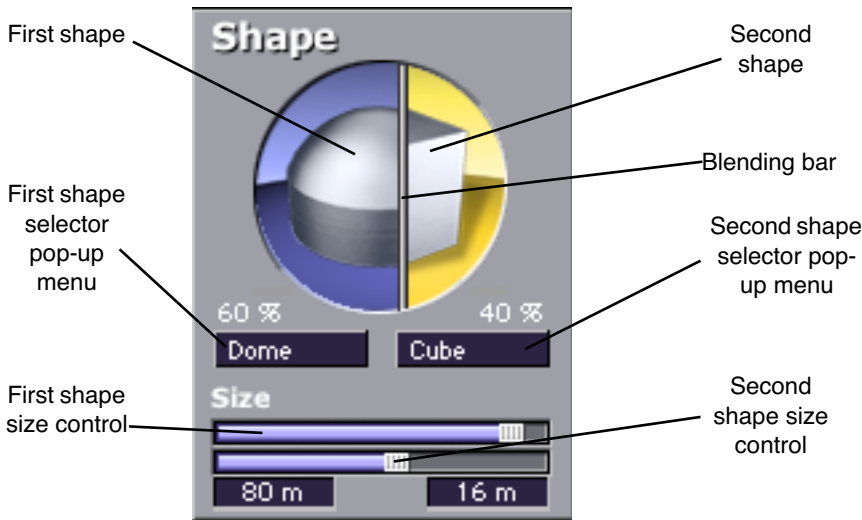

Figure 21. RealVerb Pro Shape panel
**Note:** The length in time of the early reflections cannot be adjusted from the Timing panel, and instead is determined by the reverb's shape and size (see Figure 21).